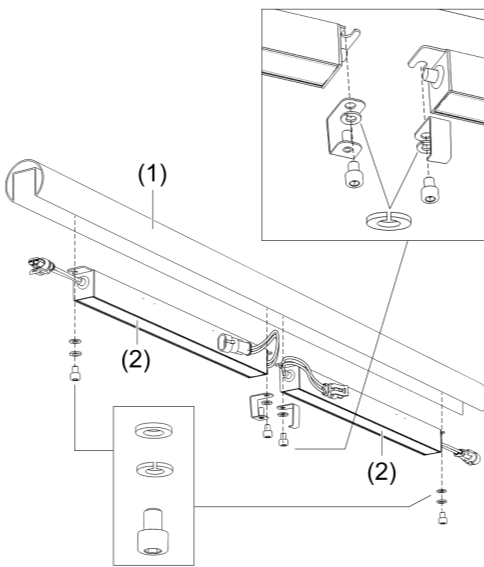

Figure 5: Installing lighting inserts
- Install lighting inserts in the groove profile as shown (Figure 5).